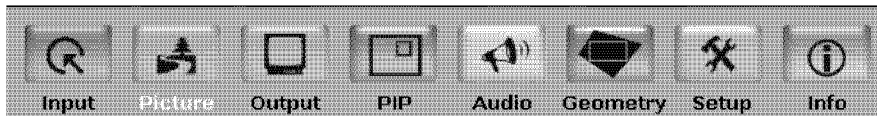

Figure 12: MENU Items
- Press the MENU front panel OSD button or the MENU key on the infrared remote control transmitter (see Figure 11) to display the main MENU screen¹, which displays eight interactive icons (see Figure 12)